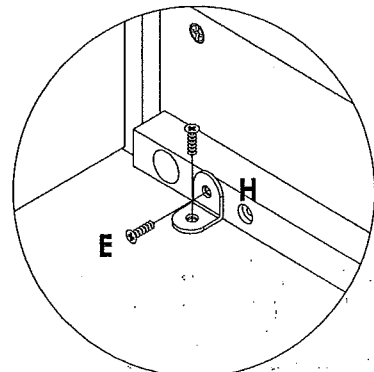

Figure 8
2. Attach **Brackets (H)** to Slat Supporter and screw **Screws (E)** down by using a Crosshead Screw Driver as shown in **Figure 8**.